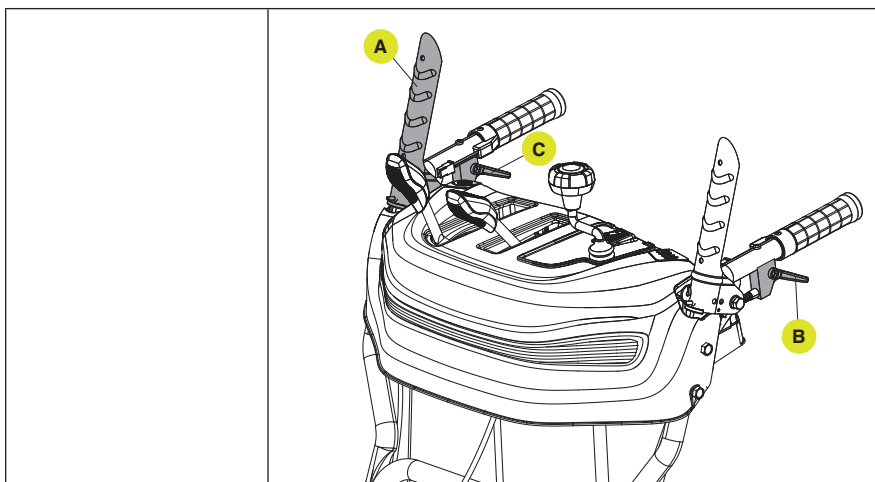

Figure 29
1. Engage the self-drive control lever (A) to move the machine forward. (Fig. 29)
2. Pull up on the left trigger (B), to turn left.
4. Pull up on the right trigger (C), to turn right.
6. Disengage self-drive control lever (A), then pull both triggers to make a tight 180° turn or push back to the garage.